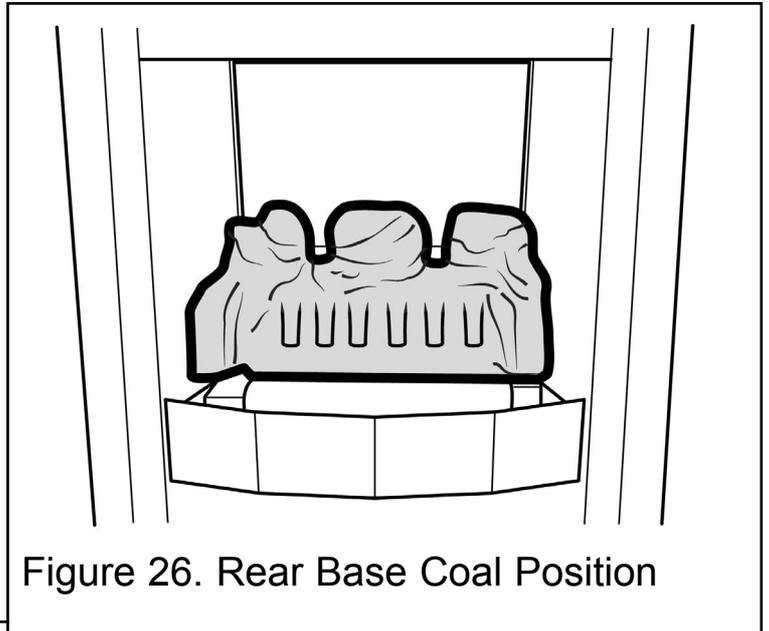

Figure 26. Rear Base Coal Position
1. Place the rear base coal in the firebox. It should rest on the ledges at the rear sides of the burner unit. When located gently move the rear base coal so that it is as far forward as possible. The amount of movement will be negligible (See figure 26).